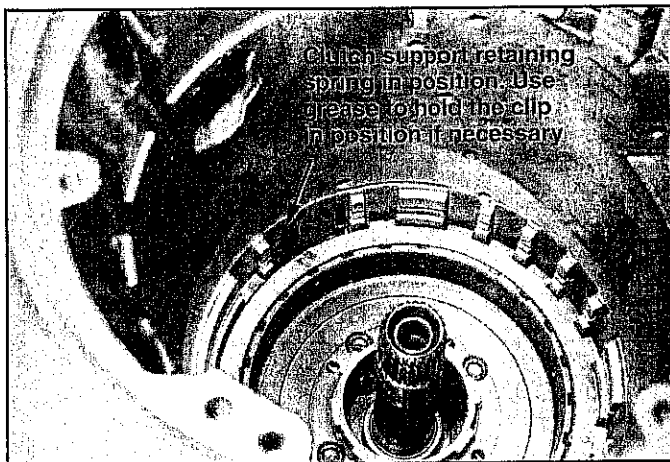

FIGURE 45
STEP 9. Install the clutch support retaining spring (clip) into place. (See Fig. 45) If the case is propped up slightly the clip will stay in place. Grease may be used to retain it also.